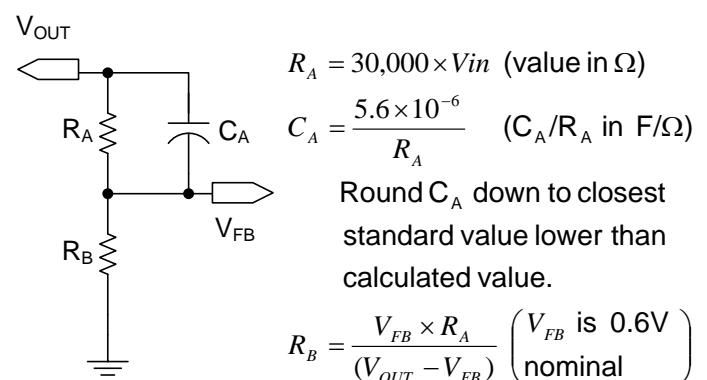

Figure 4: Output voltage resistor divider and phase-
The EN5394 uses of a type III compensation network. Most of this network is integrated. However a phase lead capacitor is required in parallel with upper resistor of the external divider network (see Figure 4). This network results in a wide loop bandwidth and excellent load transient performance. It is optimized for approximately 100µF of output filter capacitance at the voltage sensing point. Additional decoupling capacitance may be placed beyond the voltage sensing point outside the control loop. Voltage-mode operation provides high noise immunity at light load. Further, voltage-mode control provides superior impedance matching to ICs processed in sub 90nm technologies.
The EN5394 output voltage is determined by the voltage presented at the VFB pin. This voltage is set by way of a resistor divider between  $V_{OUT}$  and AGND with the midpoint going to VFB. A phase lead capacitor  $C_A$  is also required for stabilizing the loop. Figure 4 shows the required components and the equations to calculate their values. Please note the equations below are written to optimize the control loop as a function of input voltage.
**Recommendation 8:** Keep  $R_A$ ,  $C_A$ , and  $R_B$  close to the VFB pin (see Figures 4 and 8). The VFB pin is a high-impedance, sensitive node. Keep the trace to this pin as short as possible. Whenever possible, connect  $R_B$  directly to the AGND pin instead of going through the GND plane.